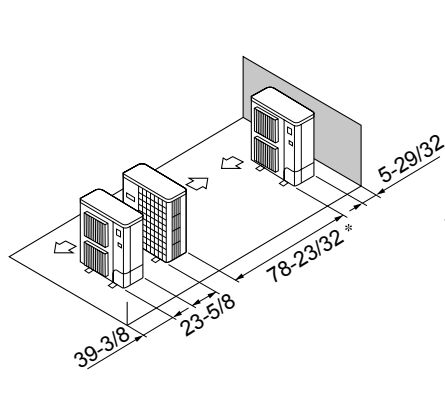

Fig. 2-16
- ⑤ Single parallel unit arrangement (Fig. 2-16)